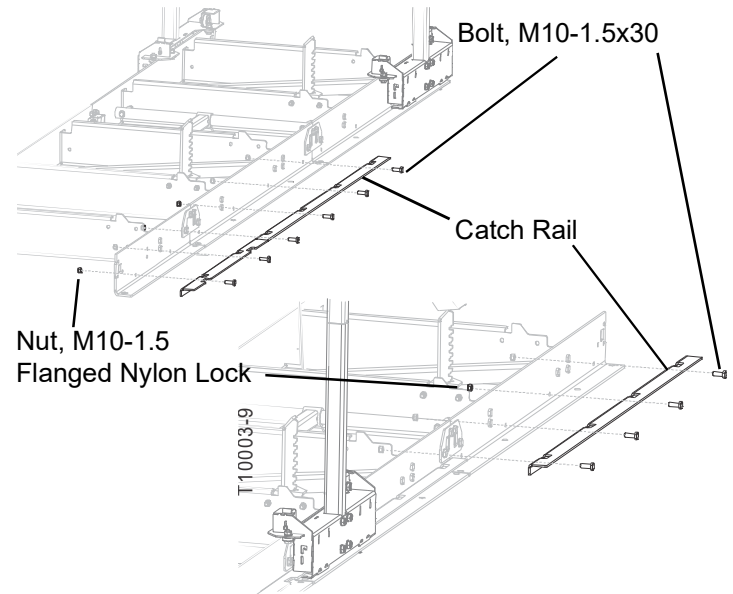

FIG. 1-12
8. With the sawhead at the head of the bed, (either end may be designated as the head) attach two lower segments of the catch rail. See FIG. 1-12.
9. Move the carriage toward the foot of the bed and install the last segment of the catch rail, using M10-1.5x30 bolts. See FIG. 1-12.